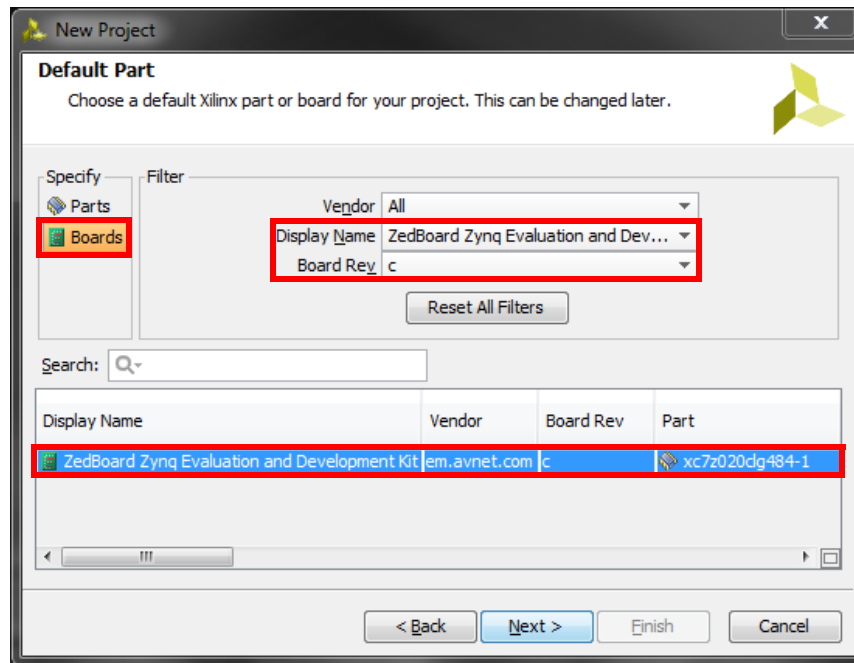

Figure 4.2: Vivado Default Part dialogue
- (i) The *Default Part* dialog will open. Here we will be selecting the Zynq part which we are targeting. In this particular case we will be targeting the Zynq-7020 on the ZedBoard, but if you have a different development board, it is easy to choose your particular board instead. Select **Boards** from the *Specify* pane, **ZedBoard Zynq Evaluation and Development Kit** as the *Display Name*, and finally select the *Board Rev* which you have. In Figure 4.2 **version C** of the **ZedBoard** has been selected.